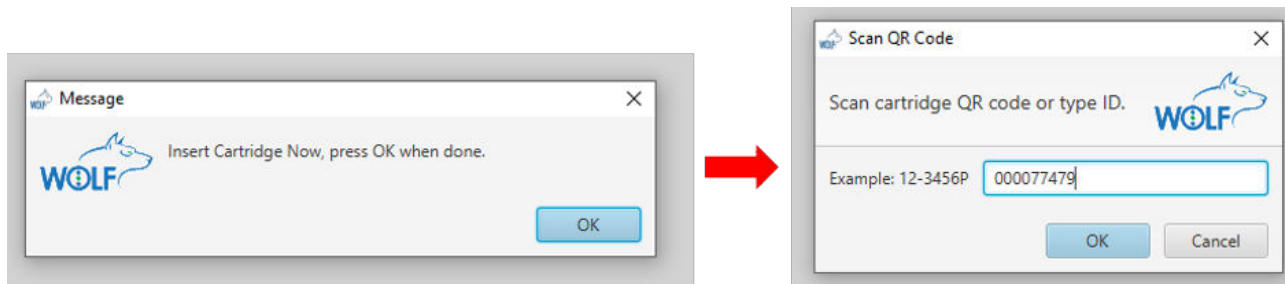

Figure 11. Scanning in a new cartridge.
2. When the system is ready, a pop-up will prompt to insert a new cartridge. Insert a cartridge and click “OK” (Fig. 11).